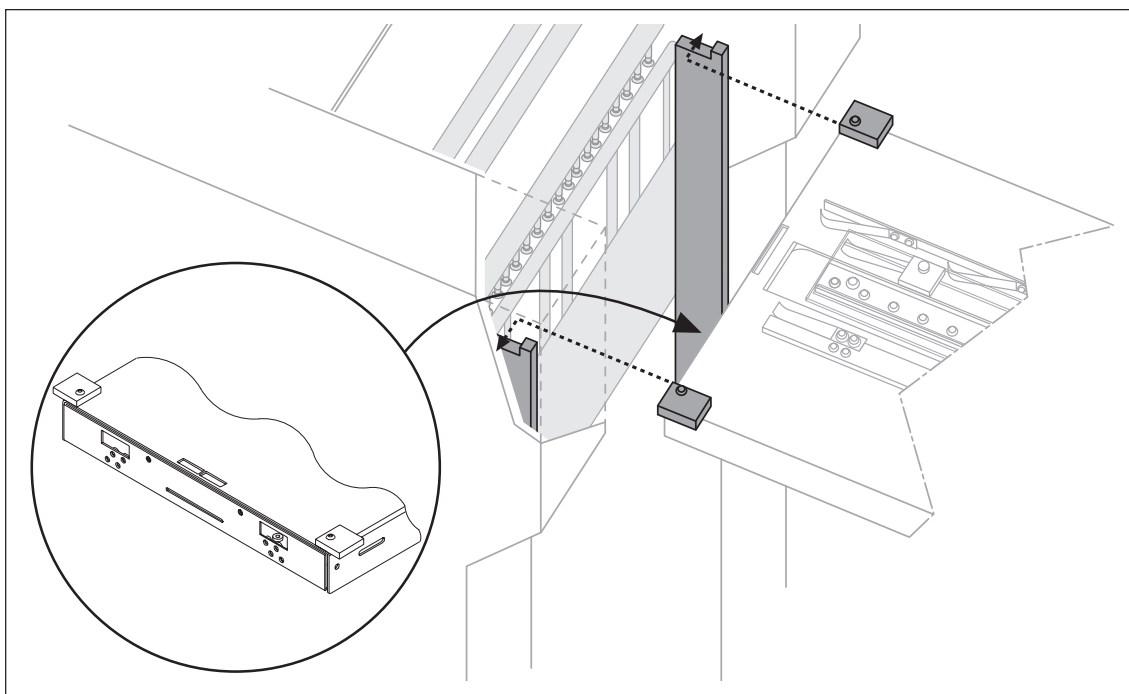

Figure 4. Connect the Heidelberg GTO Press to the 270RT Feeder
6. Intersect the right and left alignment blocks to offset press side guides (Figure 4).